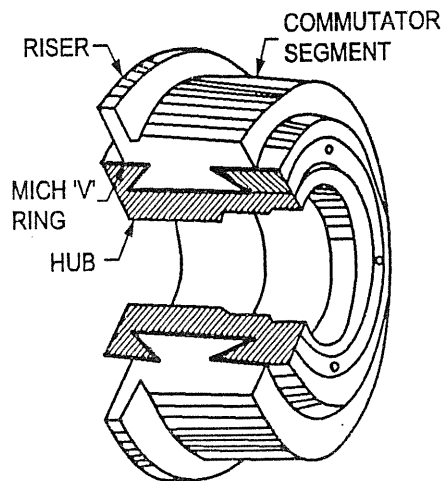

FIG. 4.28.11 : ISOMETRIC VIEW OF COMMUTATOR
- The strips are also insulated from the shaft with the help of mica ring. Figure 4.28.11 shows the view of the commutator.